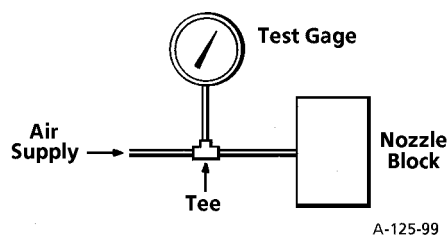

Figure 41. Test Gauge Hookup.
3. Disconnect air supply tube at nozzle block and connect test gauge as shown in Figure 41.